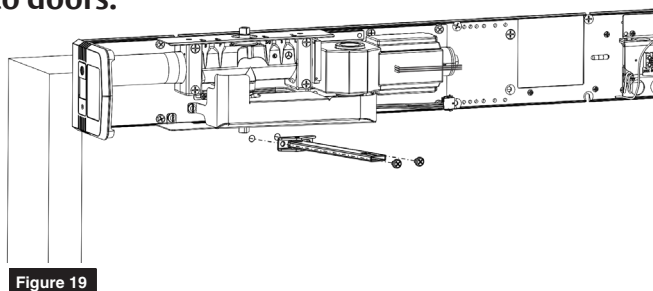

Figure 19
1. Using previously prepared holes in doors, install two (2) 1/4-20 x 1-5/8" screws through each shoe and into sex bolts. (Figure 19)